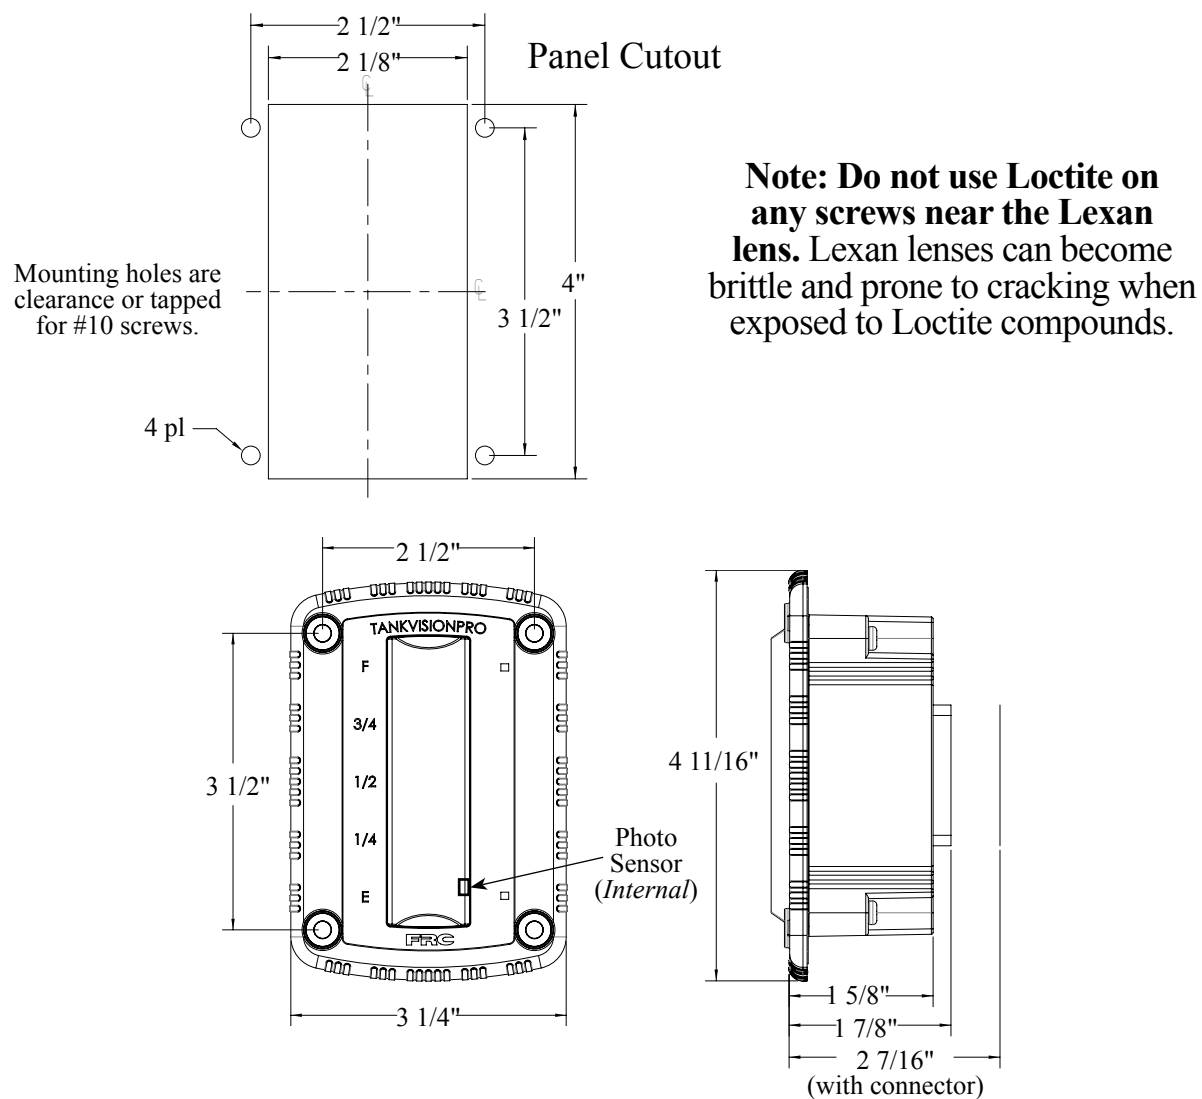

Figure 1. Display Module Mounting Dimensions
1. Measure and mark mounting location for display module panel cutout and mounting screw holes. Make sure there is clearance behind the panel for the display and cables before cutting holes. Refer to Figure 1 for layout and dimensions.
2. Cut out a 4 by 2 1/8-inch hole and drill four (4) holes (clearance or tapped) for #10 mounting screws.
3. Place display module in position and secure with four (4) screws.